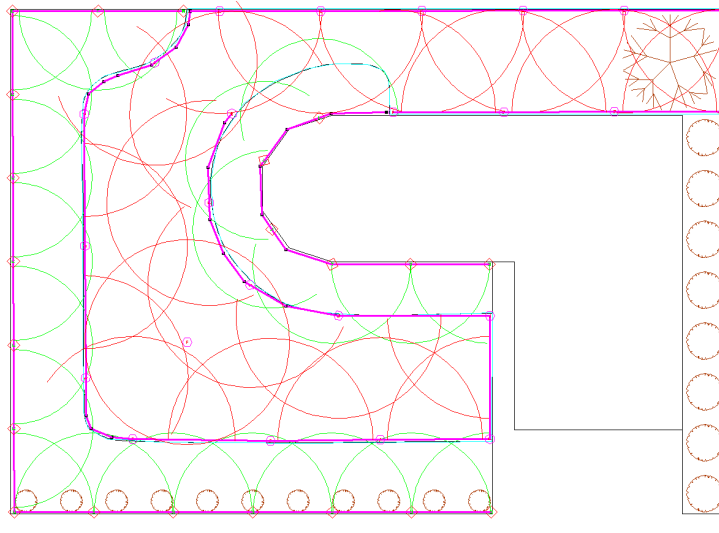

Figure 4-71
32. Adjust any arcs as required. Note, depending on the actual dimension of your design and the placement of the house etc, select outlets with the required radius as needed. If you have a larger area of lawn, select a different nozzle that gives you a larger radius of throw. Note that any outlet can be deleted, placed (select *Zone/Outlet*) or moved to achieve better coverage. See Figure 4-71.